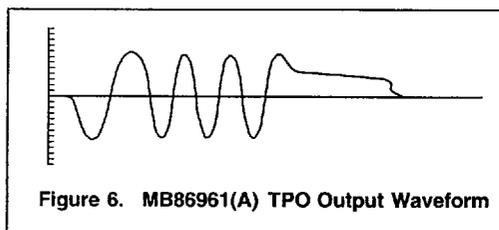

Figure 6. MB86961(A) TPO Output Waveform
The MB86961(A) receives NRZ data from the controller at the TXD input (see MB86961(A) block diagram), and passes it through a Manchester encoder. The encoded data is then transferred to either the AUI cable (the DO circuit) or the twisted-pair network (the TPO circuit). The advanced integrated pulse shaping and filtering network produces the output signal on TPON and TPOP, shown in Figure 6. The TPO output is pre-distorted and prefiltered to meet the 10BASE-T jitter template. No external filters are required. During idle periods, the MB86961(A) transmits link integrity test pulses on the TPO circuit if LI is enabled and integrated PLS/MAU mode is selected. The MB86961(A) can be programmed for either shielded TP (150 Ω) or unshielded TP (100Ω) through the UTP pin.